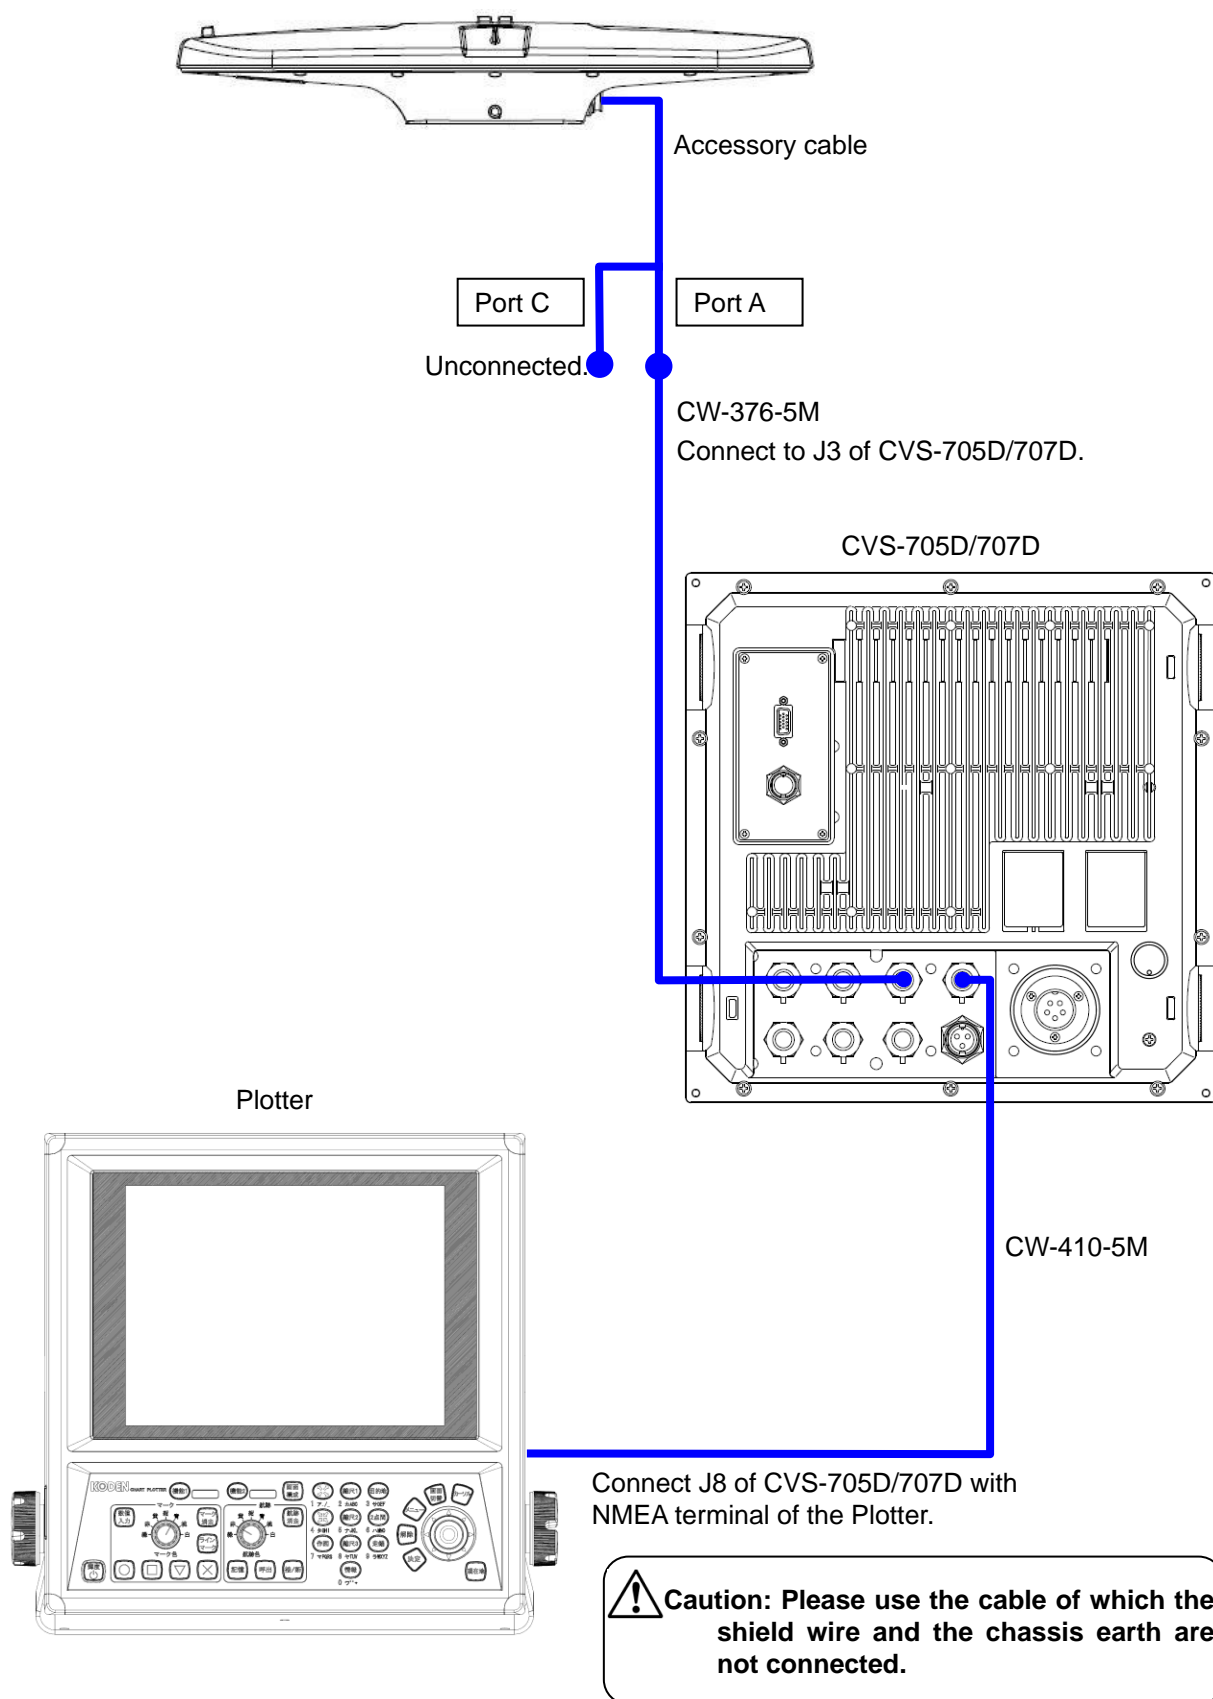

Fig.1.50 The general connection chart 3
In the other cases, connection with Port C is not necessary. Refer to **“Fig.1.50 The general connection chart 3”**.
- 4) Referring to **“Fig.1.48 The general connection chart 1 to Fig.1.50 The general connection chart 3”**, connect other equipment to communicate NMEA with the terminal J8 of CVS-705D/707D.